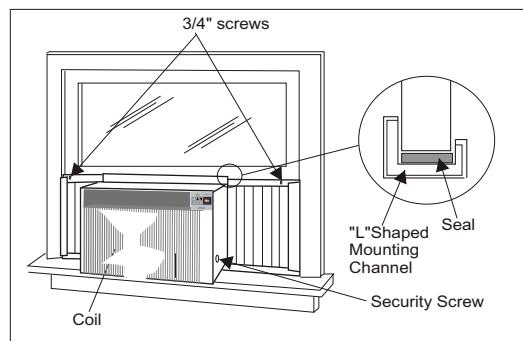

Fig. 12
See (Fig. 12).
C. Now, secure bottom frame of shutters using one shutter clamp and one 3/4" screw on each side(Fig. 12).